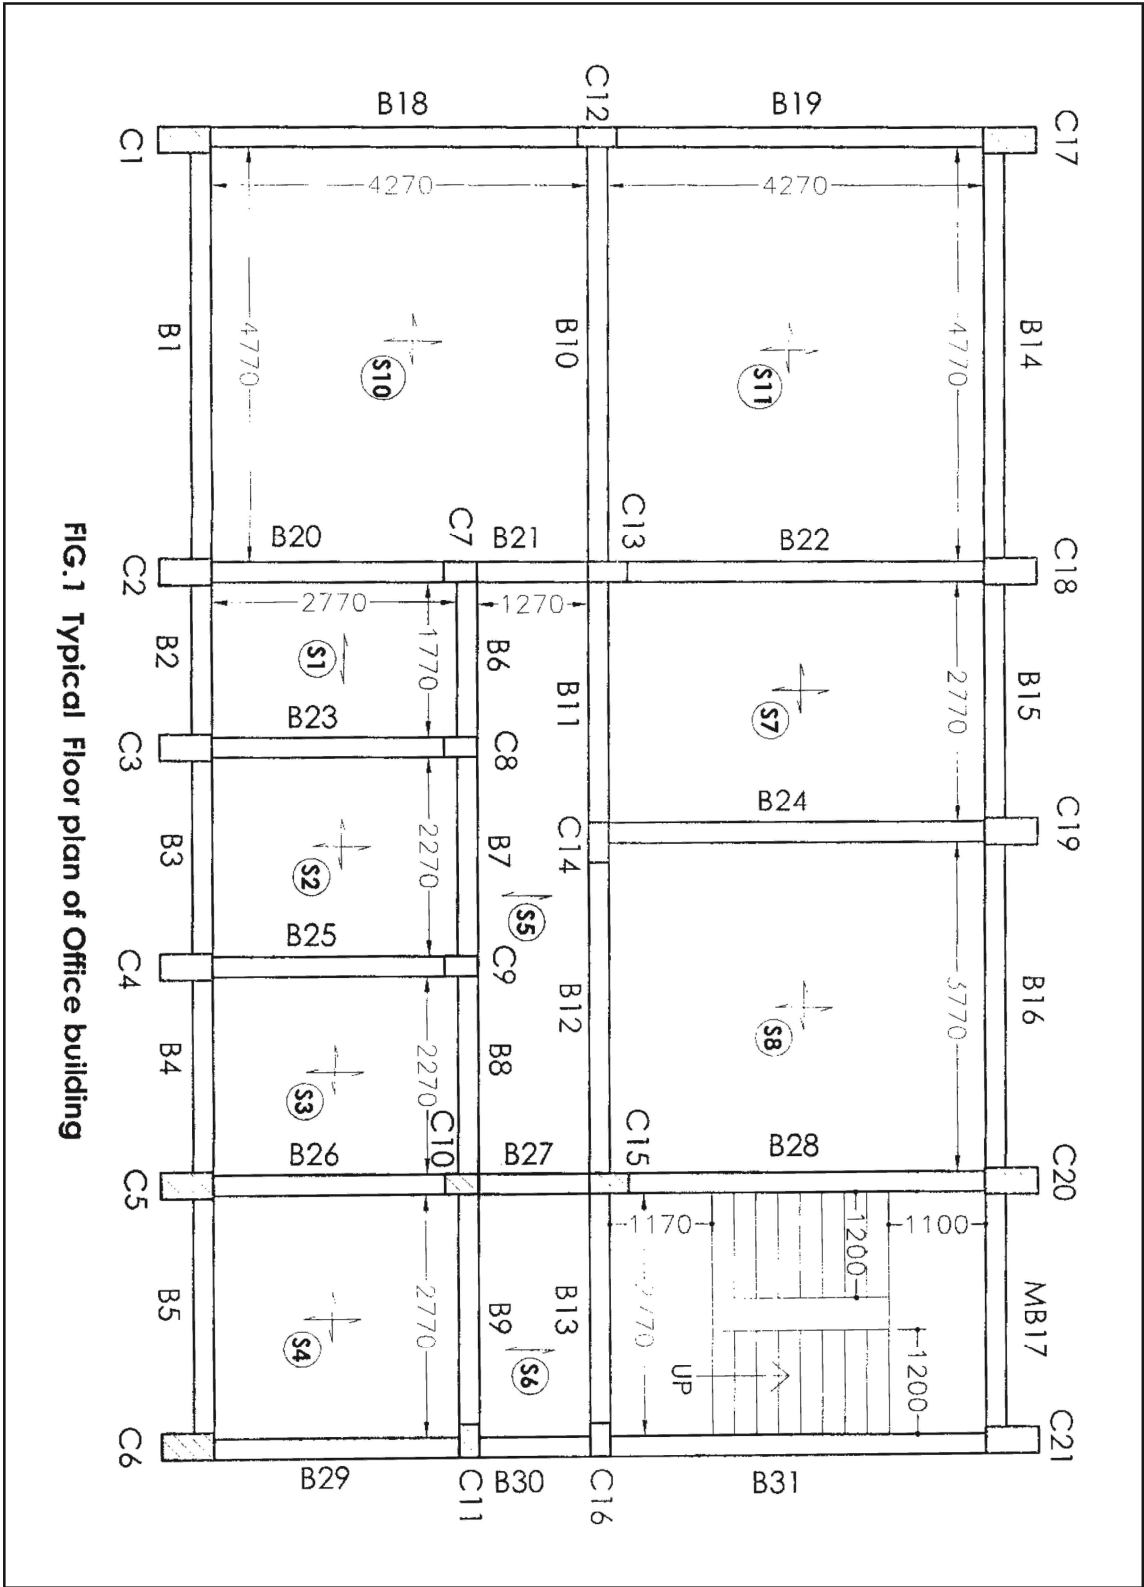

FIG.1 Typical Floor plan of Office building
- Q3)** Design floor slabs S7 and S11 only for flexure and torsion. Refer the structural plan given in Figure 1. Width of all beams is 230mm. Consider live load = 3 kN/m², Floor finish = 1.5 kN/m². [25]
Q4) a) Design the one flight of a dog legged staircase as shown in figure 1 using the following data : [17]
Q5) A continuous R.C.C. floor beam B14-B15-B16 (Refer Fig.1) is simply supported at end supports (C17 and C20) and continuous through column C18 and C19. Consider live load on slab 3kN/m² and floor finish 1.5 kN/m². Assume slab thickness 130 mm for load calculation. Consider 230 mm thick brick wall on these beams. Floor to floor height is 3.15m. Show detailed load calculations and determine support moments, maximum span moments for all beams, using 20% redistribution of moments. Draw bending moment diagram and design the beam only for flexure. Show the reinforcement details along the length of beam with suitable cross sections. [25]